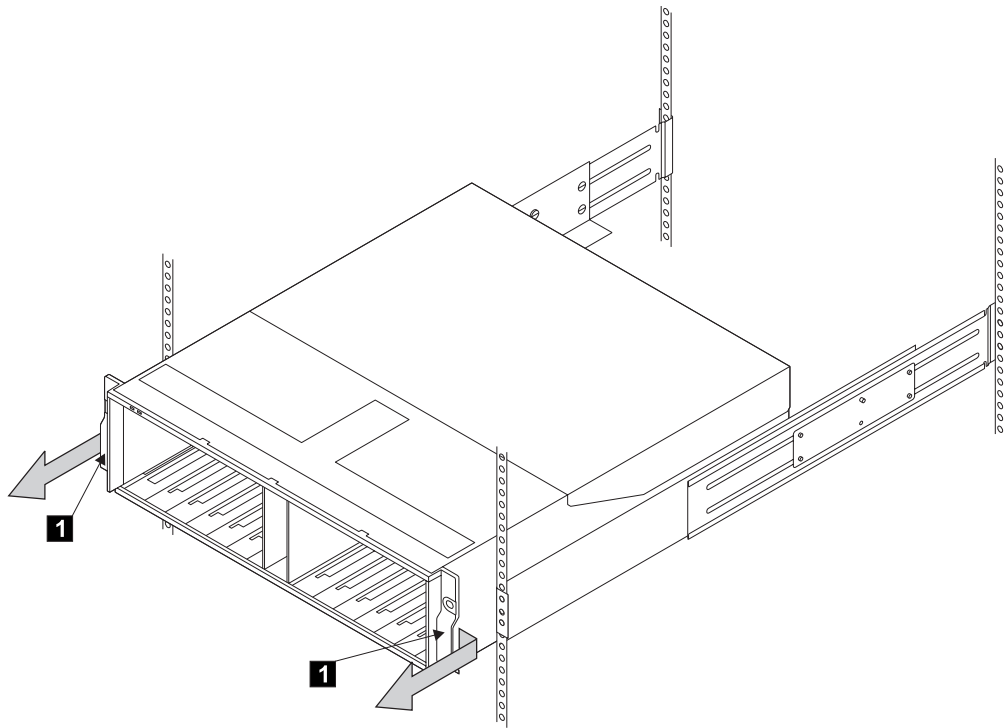

Figure 52. Removing the Frame Assembly from the Rack
Step 7. Refer to Figure 52.
Attention: When you remove the frame assembly from the desktop unit, ensure that you pull the **metal** brackets that are behind the plastic bezel (see Figure 52 on page 106). **Do not pull the bezel:** it will break.